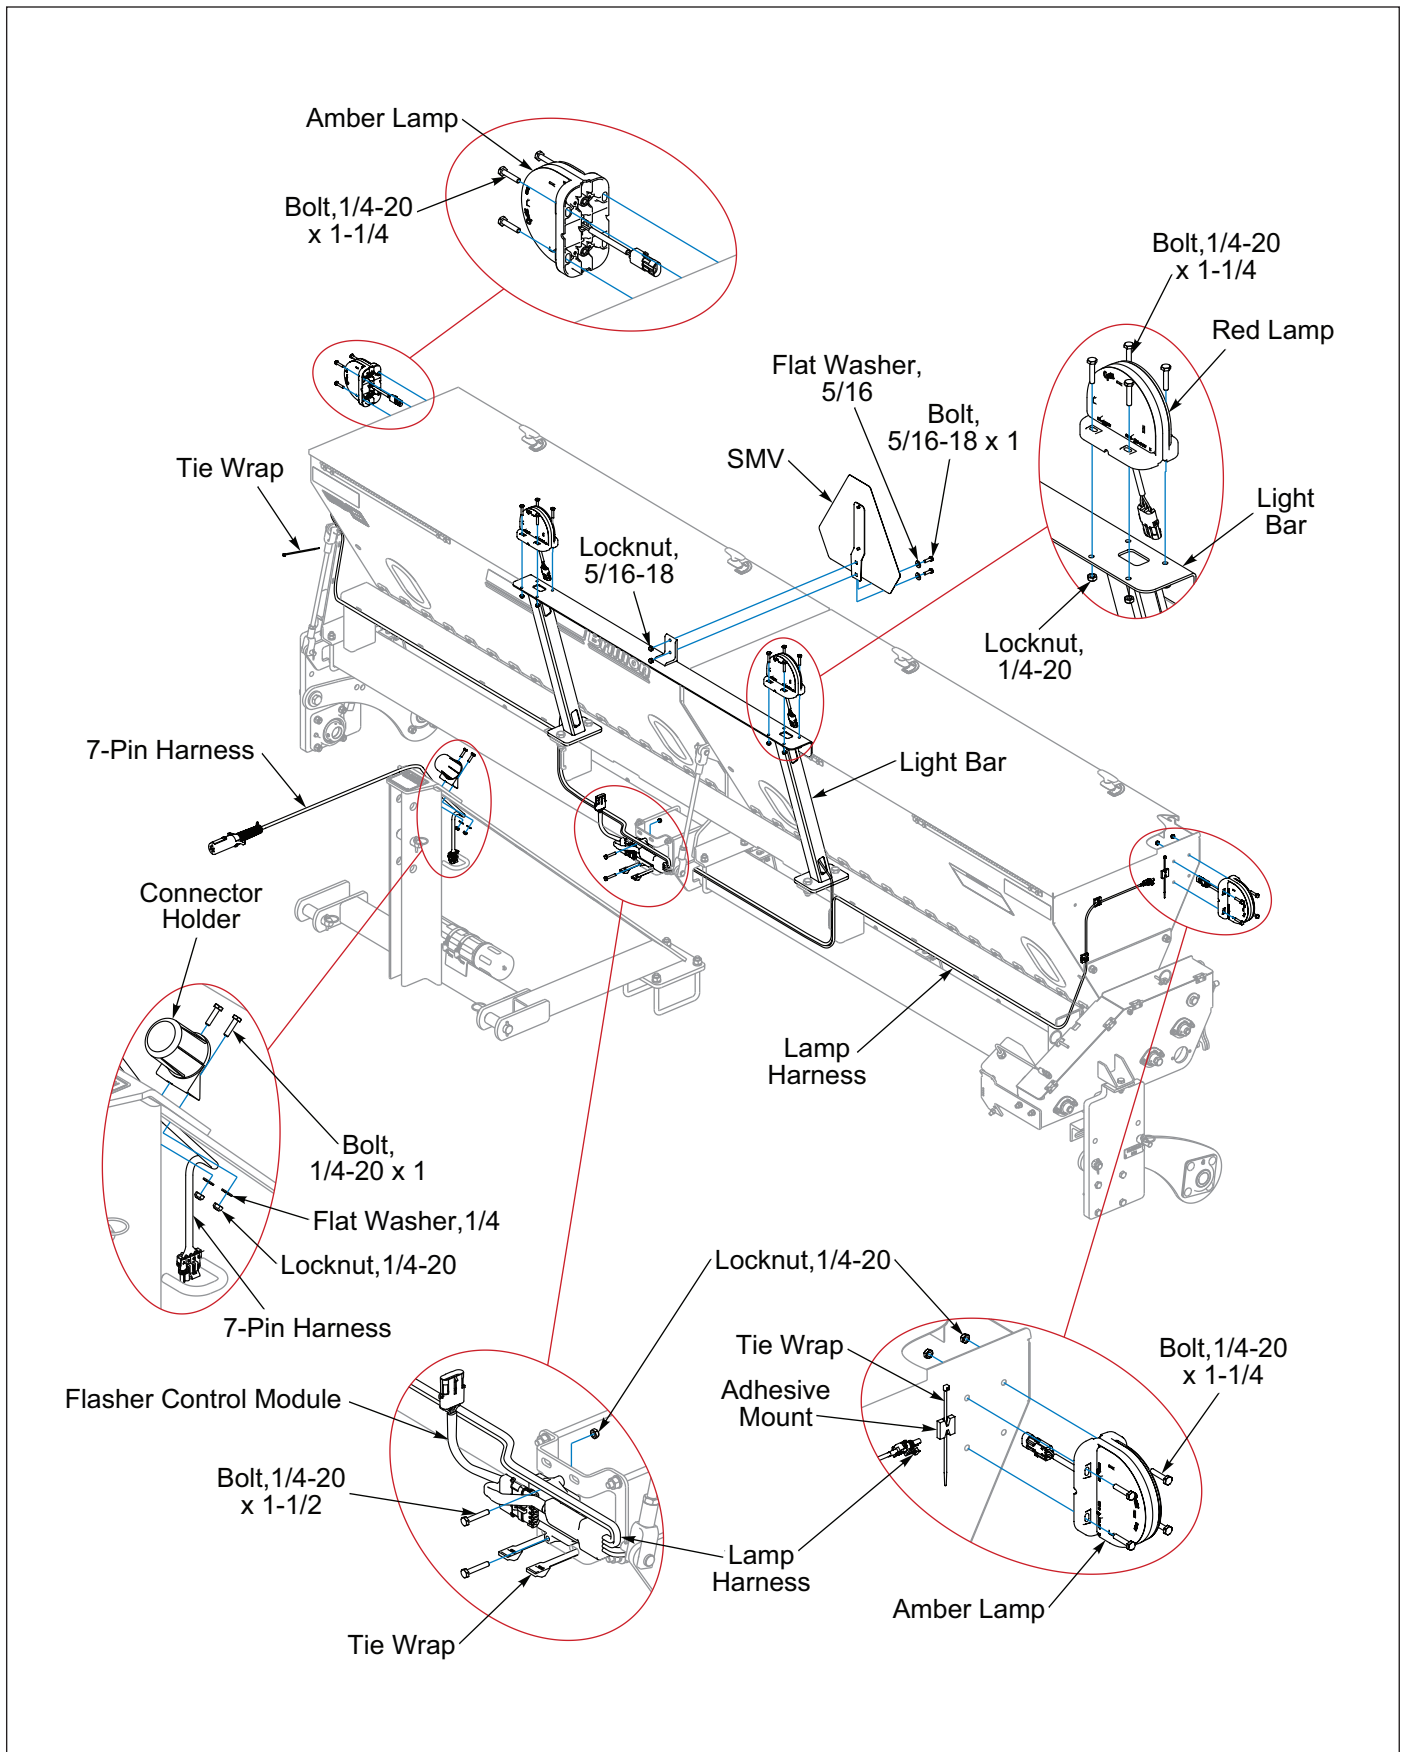

Figure 2-19: Warning Lamp Installation, 12FT
1. Place a Red Lamp at each end of the Light Bar and insert the Red Lamp Cord into the Light Bar cutout. Secure Red Lamp to Light Bar with 1/4-20 X 1-1/4 Bolts and Locknuts. **See Figure 2-19.**